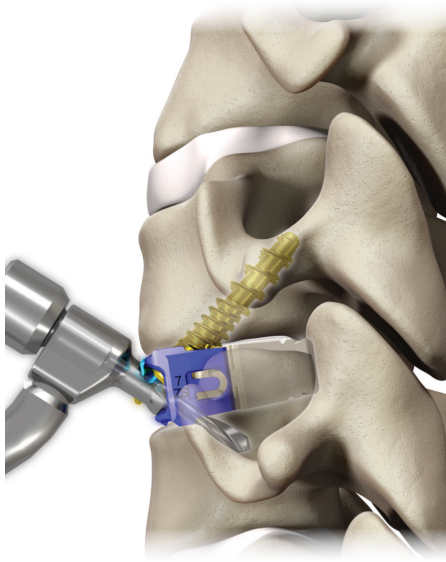

Figure 32
- Intra-operative imaging should be used to verify awl or drill position and determine the appropriate length screw (Figure 32).